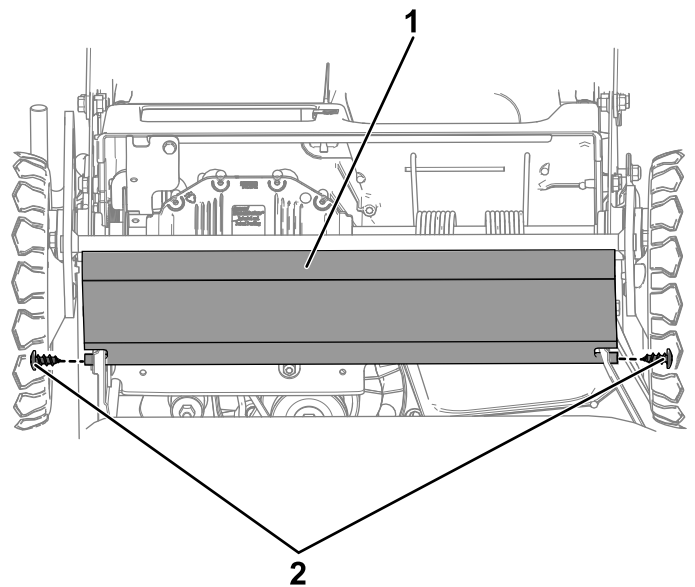

Figure 47
9. Remove the trailing shield by removing the 2 bolts holding it in place (Figure 47).